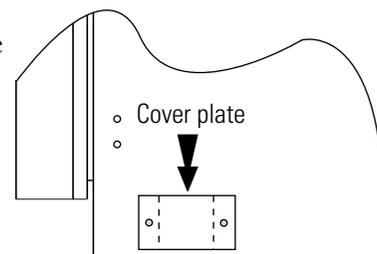

Figure 5-7. Cover Plate Location
14. Locate the small cover plate on the side of the unit. Refer to Figure 5-7. Remove the two screws and move this plate to the opposite side of the unit. Secure the plate.